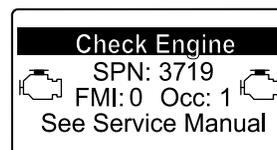

Figure 75
- Engine warning SPN 3719, FMI 0 (Figure 75)